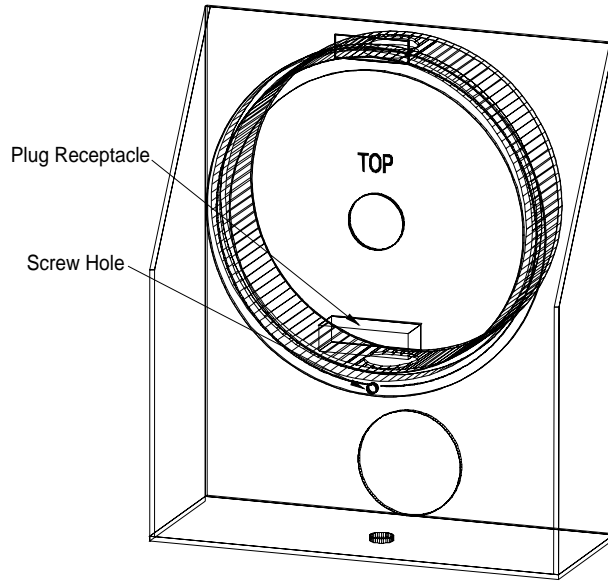

Figure 15 Mounting Bracket with Back Box and Signal Mounting Plate Attached
11. Align the holes in the horn signal mounting plate with the mounting screw holes in the back box bosses. The word "TOP" on the horn signal mounting plate and the back box should be oriented in the same direction and the screw hole on the bottom edge of the horn signal mounting plate should be directly over the gap in the back box gasket as seen in figure 15.